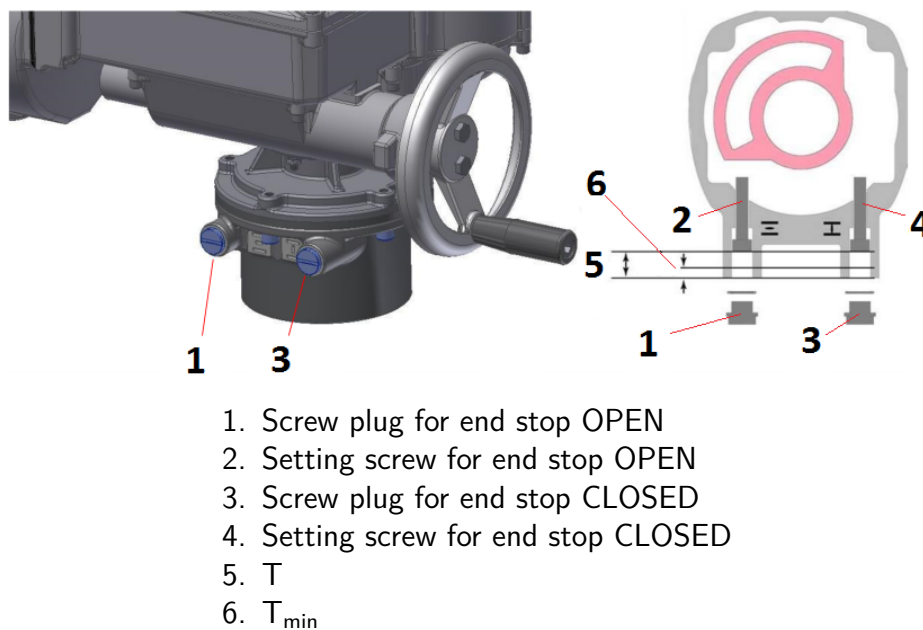

Figure 4.7: Cross section of compartment for end stop screws
- Never completely remove the setting screws [2] and [4] to avoid grease leakage (refer to figure 4.7).